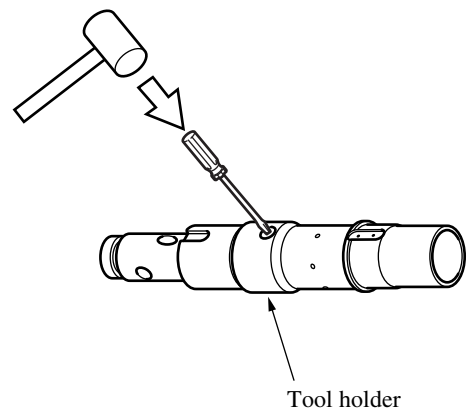

Fig. 15
- 2) Put a thin  $\ominus$  driver into hole of Tool holder, hit it by plastic hammer, and remove Ring spring 21 from grooves. ( See Fig.15)